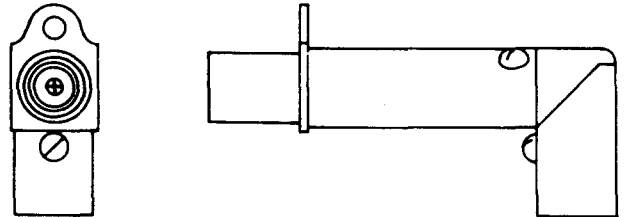

Fig. 17—474-Type Jack
2.17 474B, C, and D: These jacks each have right-angle, swivel elbows at one end and arranged for a solderless shield connection to a 724 or similar-type cable by means of a sleeve which is furnished as a loose part with the jacks. These coaxial-type jacks (Fig. 17) are used in the 337 or similar-type plugs. The test voltage for each jack is 2000 volts ac.